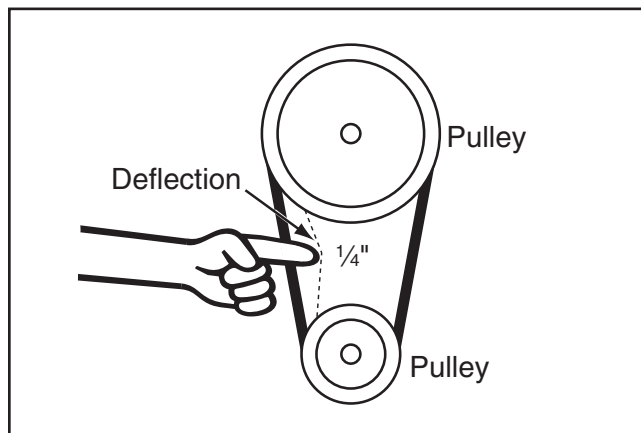

Figure 76. Checking belt tension.
5. Press belt with moderate pressure in center to check belt tension. Belt is correctly tensioned when there is approximately $\frac{1}{4}$ " deflection when pushed, as shown in **Figure 76**.